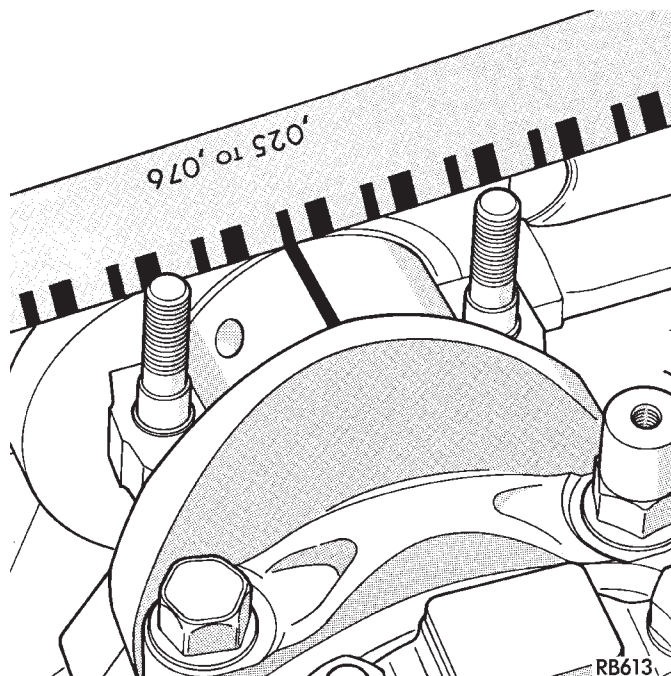

Fig. 13 Checking Connecting Rod Bearing Clearance—Typical
(1) Follow procedure specified in the Standard Service Procedure Section for Measuring Main Bearing Clearance and Connecting Rod Bearing Clearance (Fig. 13). Refer to Connecting Rod Bearing Oil Clearance Chart for specifications.